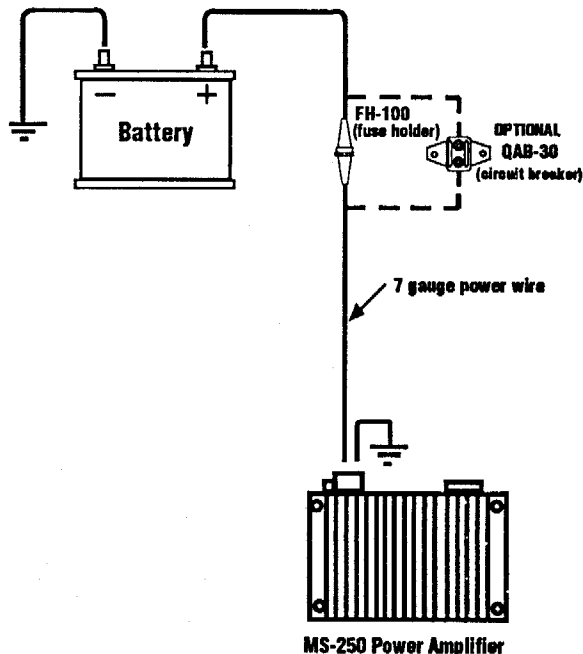

Figure 1
3. Always place a fuse or circuit breaker no more than 12 inches from the battery. This protection is only for the vehicle, not the stereo, and should be no greater than 30-40 Amps per amplifier. (see Fig. 1)